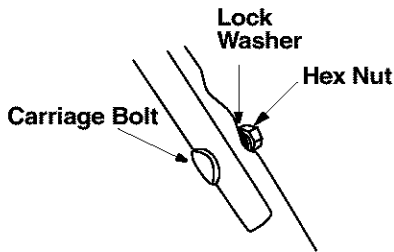

Figure 3
- Secure the upper handle to the lower handle using the carriage bolts, lock washers and hex nuts from group 2 of the hardware pack. Make sure that the carriage bolt heads go on the outside of the handle. See Figure 3.